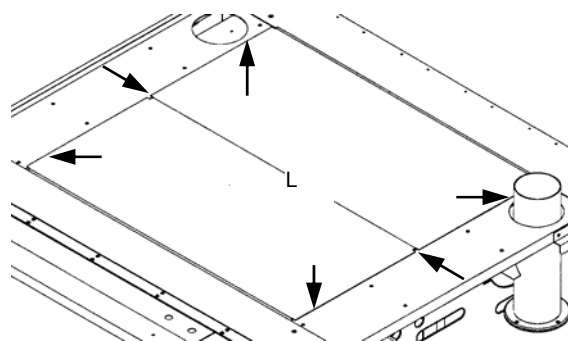

Figure A.5
- 8) Place insulation panels (L) onto oven top (Figure A.5) fitting into the top of the oven to cover the insulation. There are 3 screws (M) down each side to secure the 2 panels.